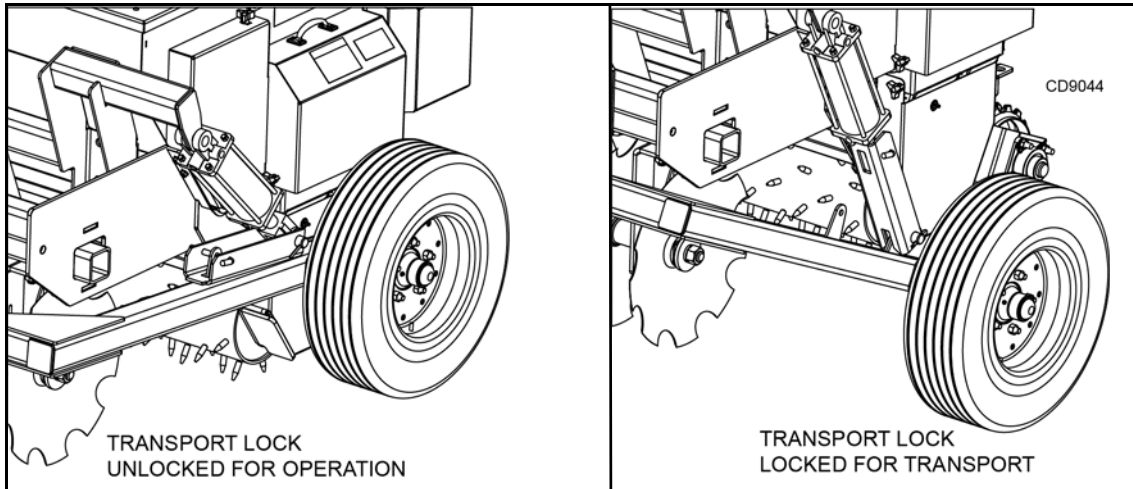

Figure 32. Transport Lock Positions
4. Place bent pin and hair pin cotter in locked position. (See Figure 32.)